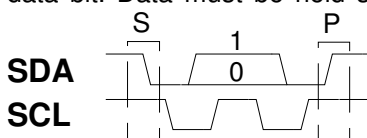

Figure 4. I²C[®] bus protocol definitions
Figure 4 shows the start (S) and stop (P) bits and a data bit. Data must be held stable at the SDA pin
Each serial bus operation, like write, starts with the start (S) bit (see figure 4). After start (S) the MAS6510 device address with write bit (AW, see table 11) is sent followed by an Acknowledge (A). After this the Measurement control register address (see table 1) is sent and followed by an
Acknowledge (A). Next the Measurement control register data (DC, see table 3) is written and followed by an Acknowledge (A). Finally the serial bus operation is ended with stop (P) command (see figure 4).